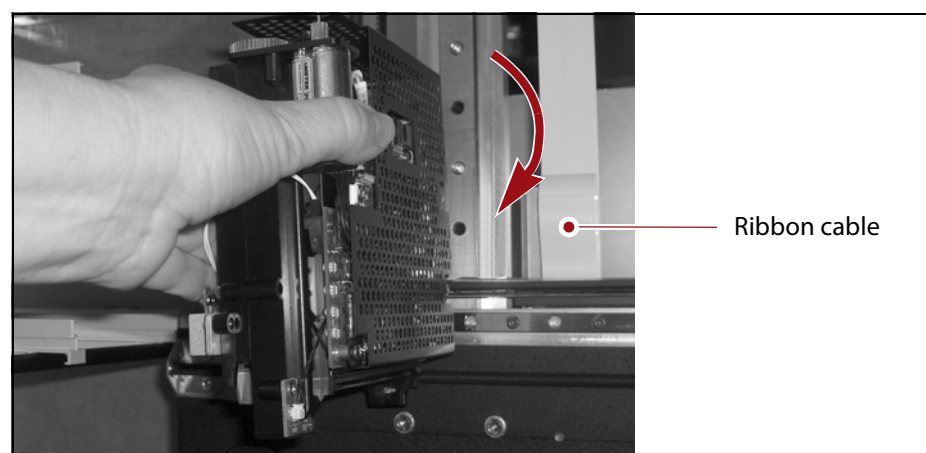

Figure 7 Rotate the cartridge picking mechanism to vertical.
3. Locate the ribbon cable connected to the printed circuit board mounted on the back of the transporter carriage (see Figure 7).
4. To improve access to the ribbon cable connector on the transporter, grasp the front edge of the cartridge picking mechanism and gently rotate the cartridge picking mechanism clockwise 90° so that it is in a vertical position (see Figure 7 on page 9).